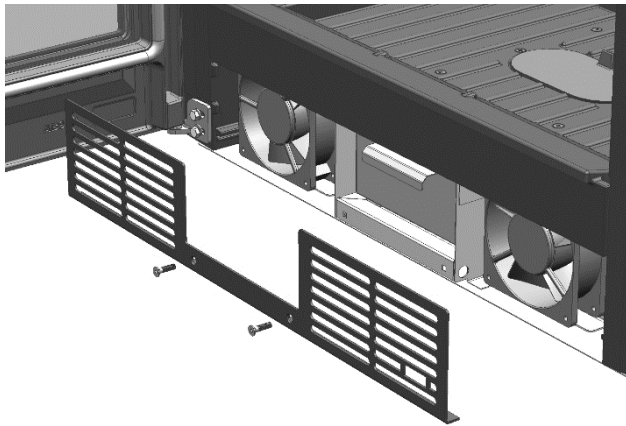

Fig.1
1. Release the front grille by loosening the screws that hold it (Fig.1).